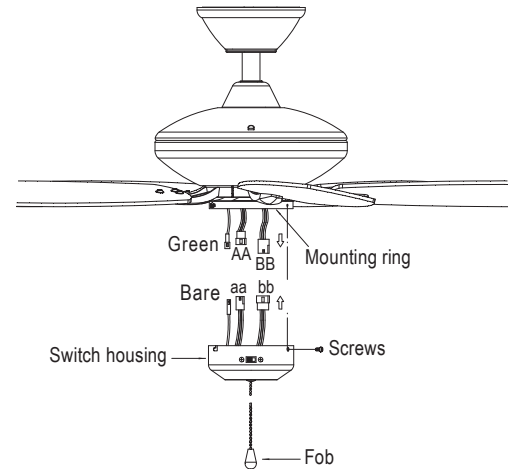

Fig. 15
Step 1. While holding the switch housing under your ceiling fan, make the wire connections. Plug the connector of the green ground wire from the fan to the connector of the bare wire from the switch housing. Then connect the small wire connector from the fan (AA) to the small wire connector from the switch housing (aa) and connect the larger wire connector from the fan (BB) to the larger wire connector from the switch housing (bb). (Fig. 15)
Step 2. Carefully push all the wires into the switch housing. Attach the switch housing to the mounting ring with the screws provided. Make sure each screw is tight. (Fig. 15)